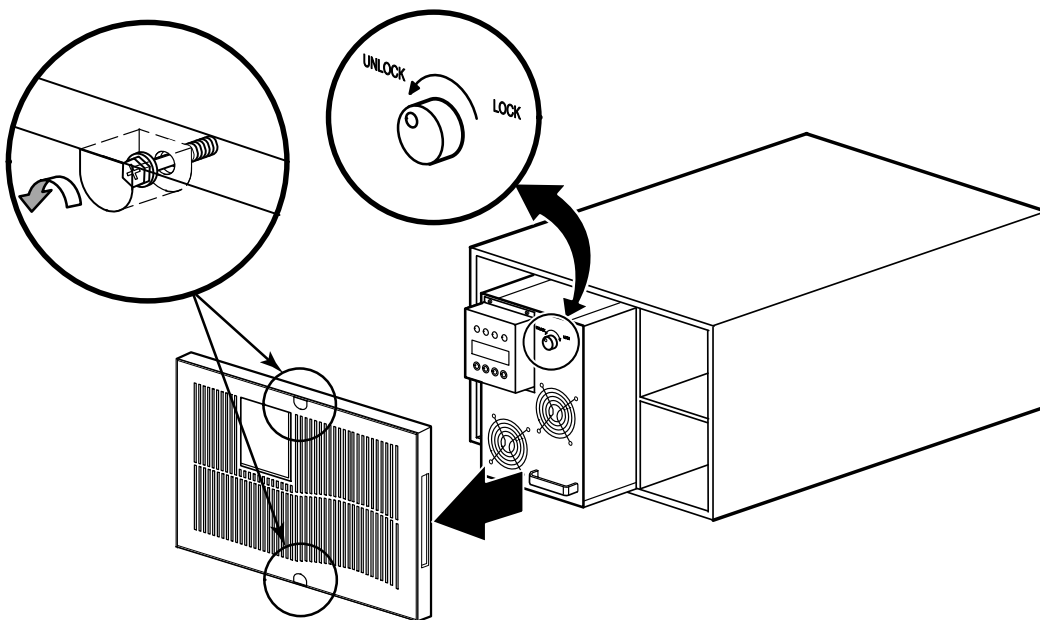

Figure 46. Removing the Electronics Module
1. Remove the UPS front cover (see Figure 46).